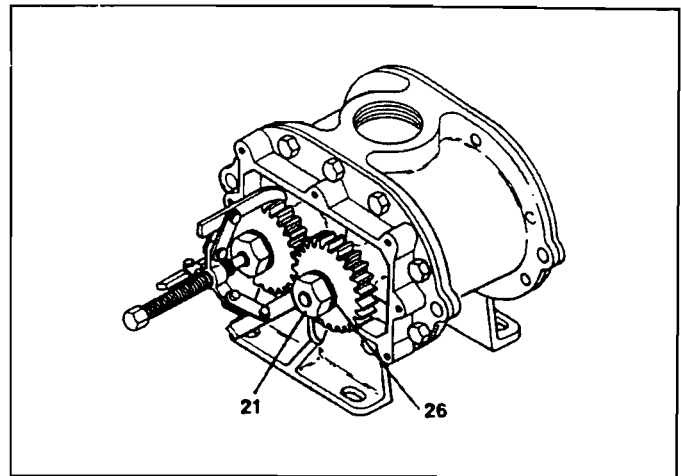

FIGURE D-2
Position an appropriate gear puller around the gear as shown in Figure D-2. Torque the set screw to unseat the gear. Remove gear nuts (21), lockwasher (26) and the gear. Repeat the procedure for the other gear.